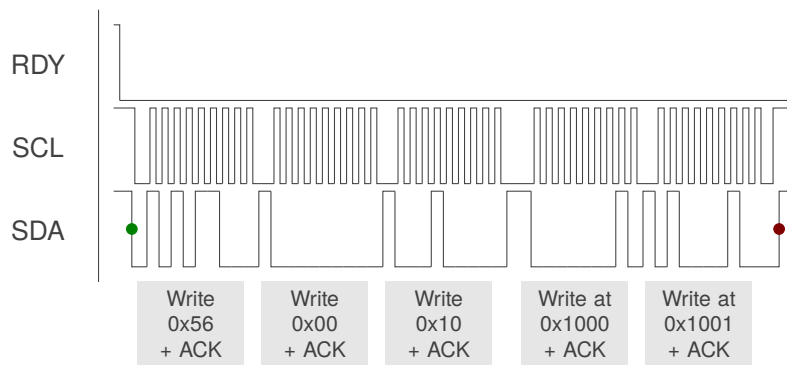

Figure 12.2: I²C Write Example — Write Two Bytes to System Control Registers 0x1000 and 0x1001
The write operation is displayed in Figure 12.2. Similar to the read transaction, when the RDY interrupt is triggered, the master initiates communication by sending a start condition followed by the device address and a write command. The IQS397 responds with an acknowledgement, after which the master device transmits two bytes defining the register address. The slave acknowledges the register address bytes. The master may then write a series of bytes to the register address and the addresses that follow, with each byte being acknowledged by the slave. The write operation is ended when the master produces a stop condition.
- > Write the new values back over I²C, as shown in Figure 12.2.